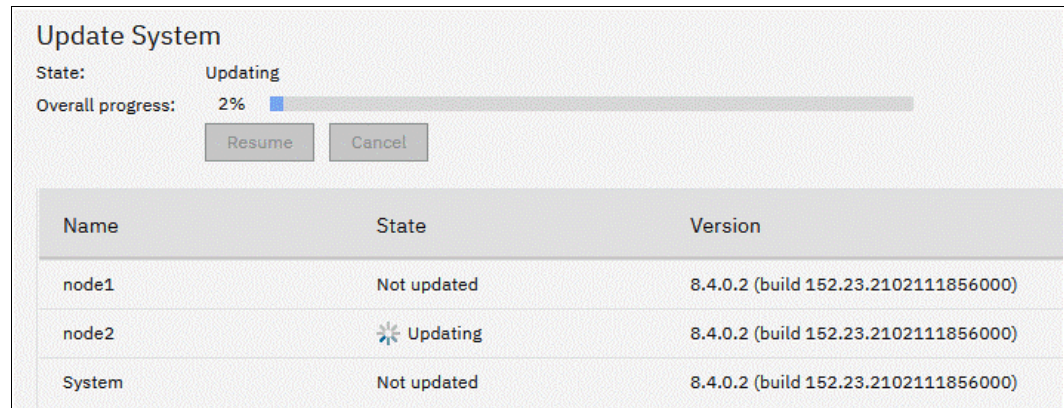

Figure 13-22 Resuming the update
- Click **Resume** in the Update System window and the update proceeds, as shown in Figure 13-22.